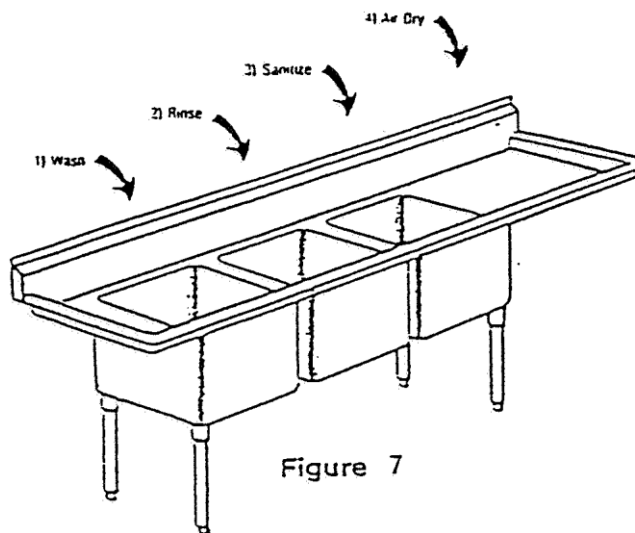

Figure 7
6. The machine is now completely disassembled. The parts will be washed, rinsed and sanitized. (Ref. Fig. 7).